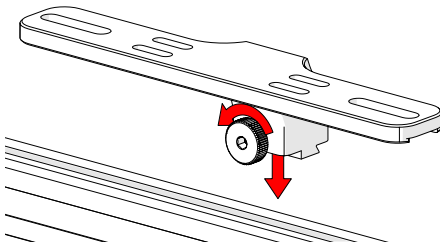

Fig. 70 - Loosen knob and mount to dovetail groove
1. Loosen the knob and align with the dovetail groove (*Fig. 70*).